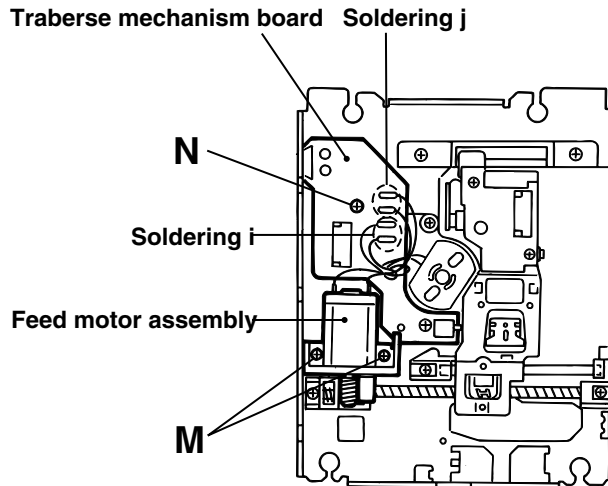

Fig.19
(See Fig.19, 20)**
■Removing the traverse mechanism board (See Fig.19)